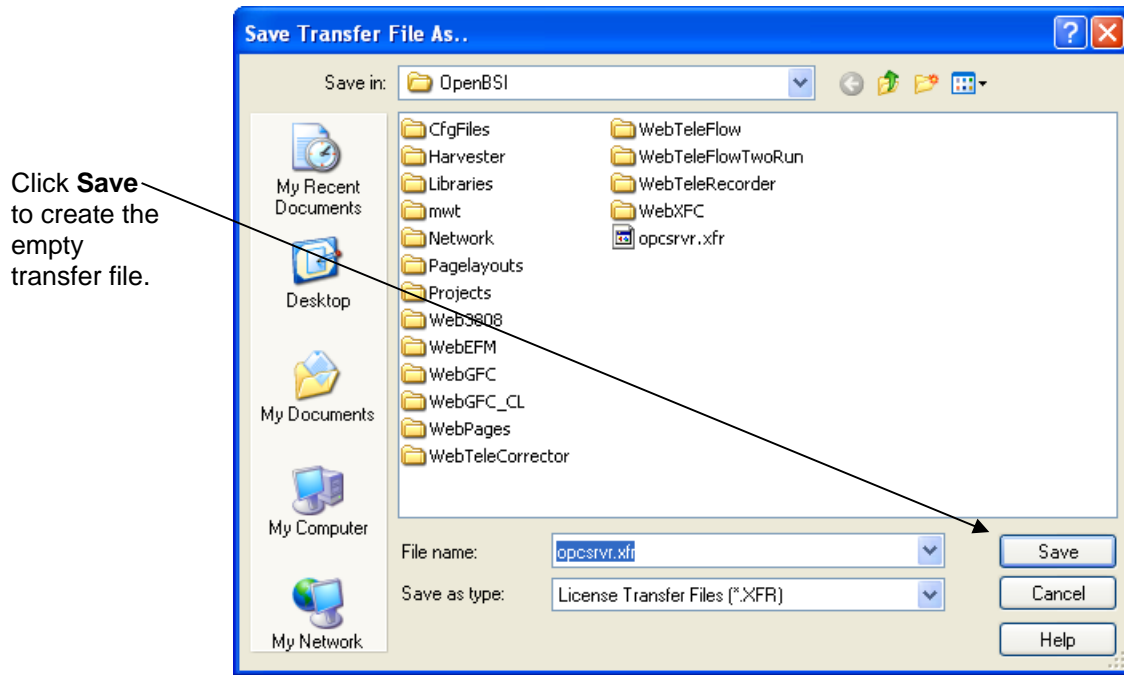

Figure 2-19. Save Transfer Request File
4. Save the empty transfer (*.XFR) file. (See Figure 2-19.)